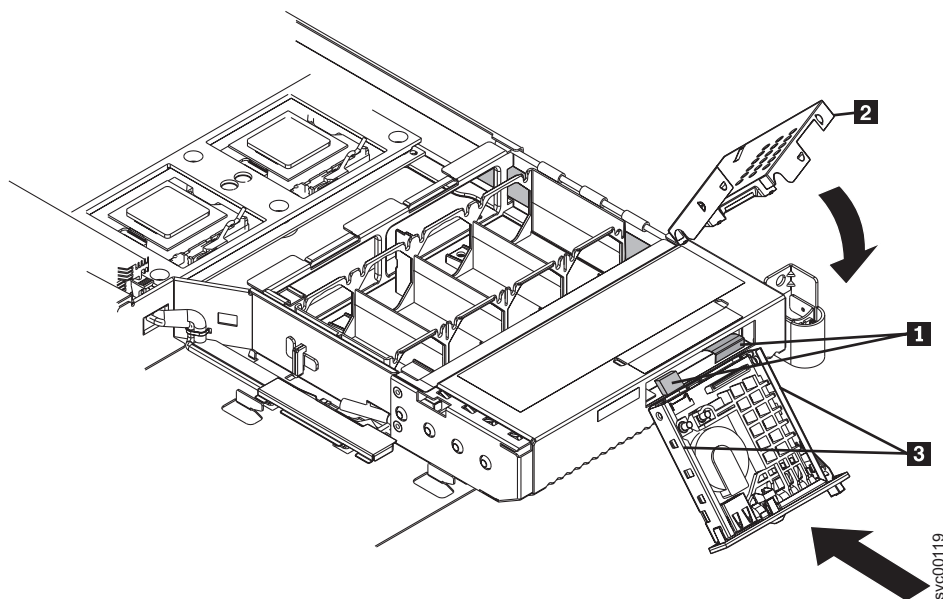

Figure 225. Replacing the operator-information panel
1. Plug in the two cables on the rear of the assembly **1**. See Figure 225.